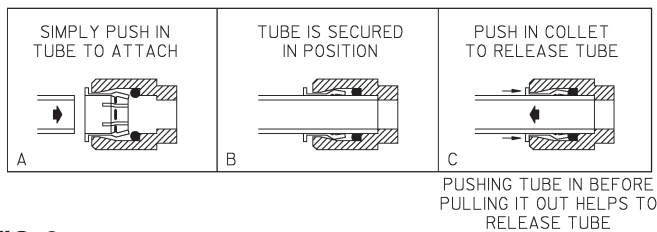

FIG. 2
11. Connect fountain to supply line with a shut-off valve and install a 3/8" unplated copper water line between the valve and the cooler. Remove any burrs from outside of water line. Push the tubes straight into the fittings until they reach a positive stop, approximately 3/4" (See Fig. 2). DO NOT SOLDER TUBES INSERTED INTO PLASTIC FITTINGS AS DAMAGE TO THE O-RINGS MAY RESULT.
Fountain is provided with lead-free connectors which utilize an o-ring water seal. To remove tubing from the fitting, relieve water pressure, push in on the gray collar while pulling on the tubing. (see Fig.2) To insert tubing, push tube straight into fitting until it reaches a positive stop, approximately 3/4".